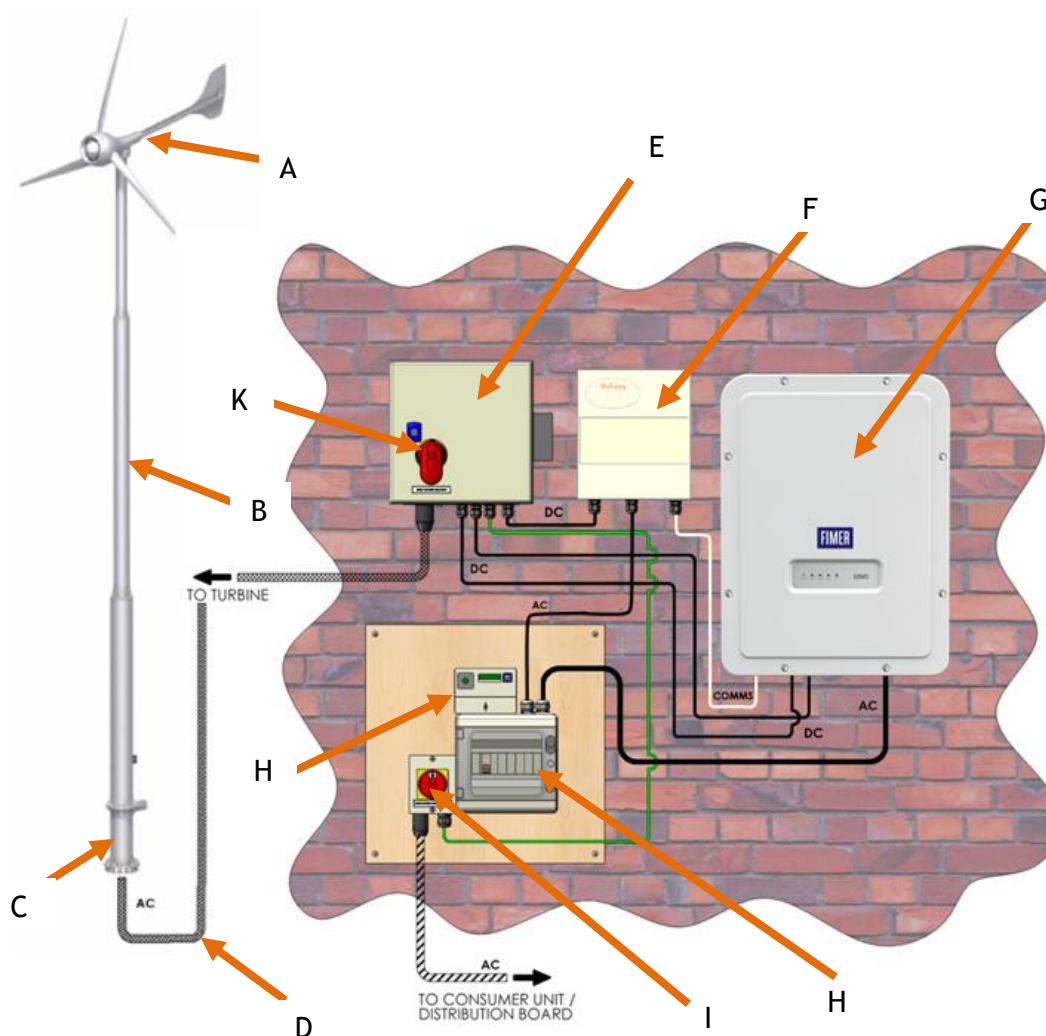

Figure 1: Typical Single Phase Installation
The electrical equipment panel (figure 1) includes a wind turbine isolator (item J) and a rectifier box or G83 controller if a Grid+ system has been purchased (item E) where the variable alternating current is turned into direct current (DC) in the range of 0Vdc to 470Vdc.
Note: that the electrical panel shown in figure 1 will still be live, as it is still connected to the wind turbine.
The Inverter/s is located on the electrical equipment panel (figure 1 item F)